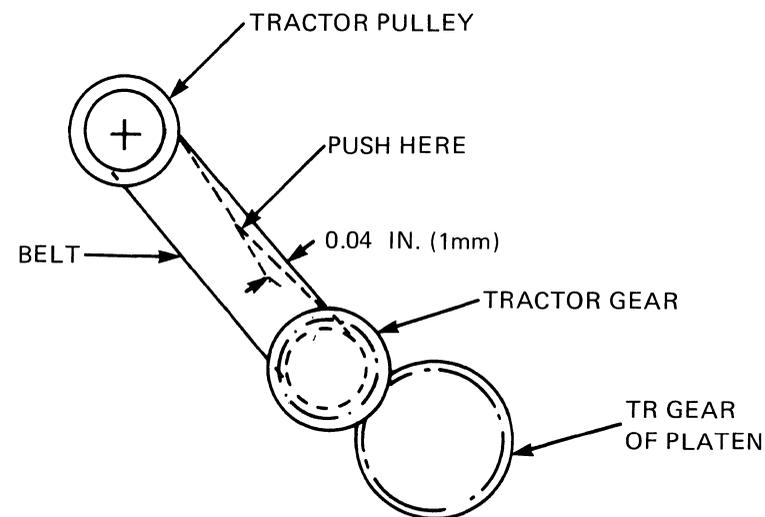

Figure 5-9 Belt Tension and Backlash Adjustment
- a. Push at the center of the belt with a force of 1 to 1.3 oz. (30 to 40 grams). The deflection of the belt should be 0.04-inch (1 mm) (see Figure 5-9).